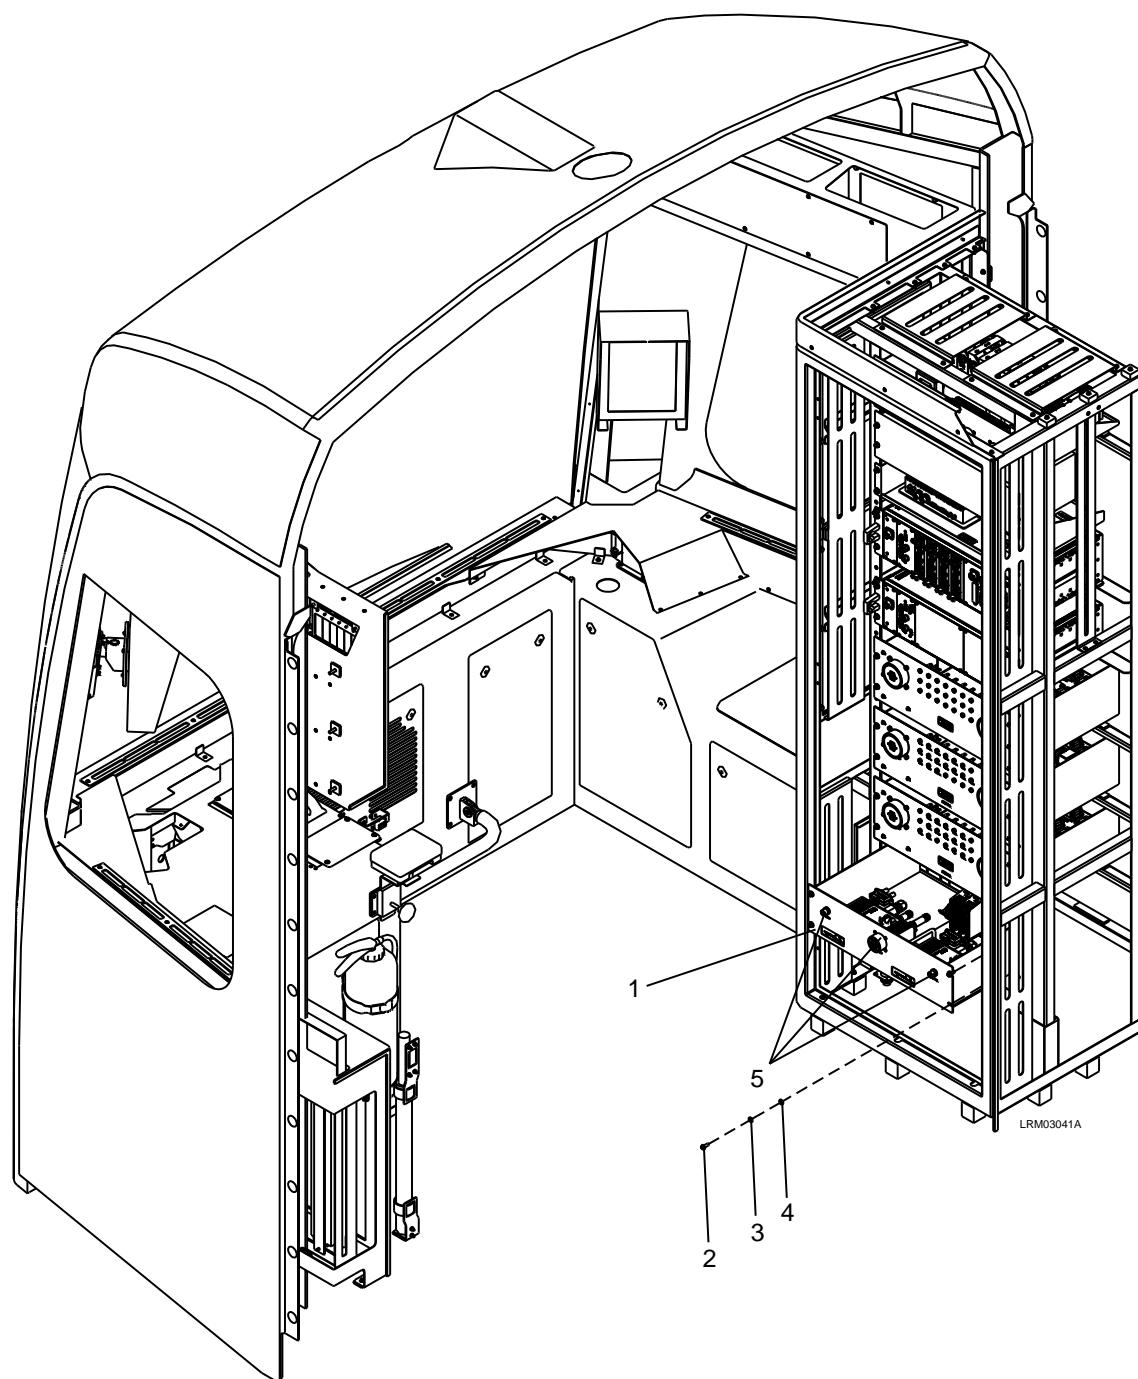

Figure 7-35: Trainline Interface Module
2. Disconnect the electrical connectors (5) to the Trainline Interface Module (1). See Figure 7-35.
3. Remove the four M6 x 16 screws (2), M6 lock washers (3), and M6 plain washers (4).
4. Carefully remove the Trainline Interface Module (1).